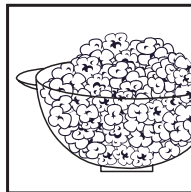

Fig. 7
9. Remove the Base and serve (**Fig. 7**). Be sure to open the Popcorn Maker so the steam escapes away from you, as steam will be hot. Use oven gloves or a towel.